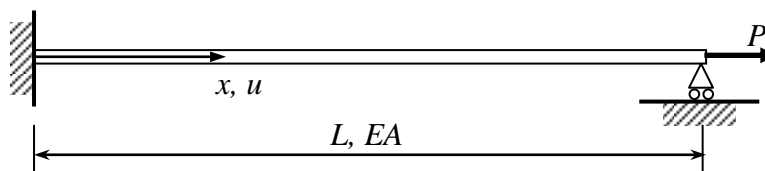

Figure 3
3. (a) Using the three basic relations necessary for the analysis of structural mechanics problems, derive the following stiffness equation for a simple 1D linearly elastic prismatic bar subjected to an end force P as shown in Figure 3.